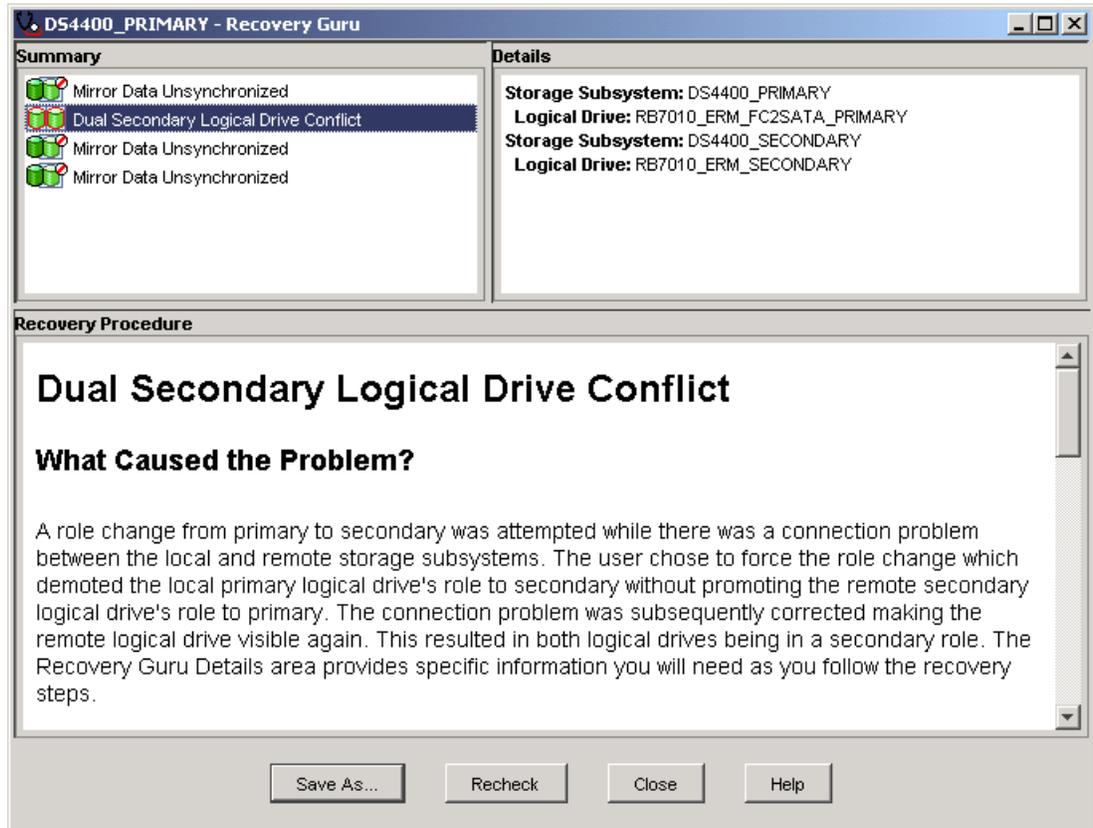

Figure 8-69 Recovery Guru: Dual secondary drive conflict
- When the communication problem has been resolved, there will be a dual secondary error condition. Click the **Recovery Guru** to resolve this condition (Figure 8-69).